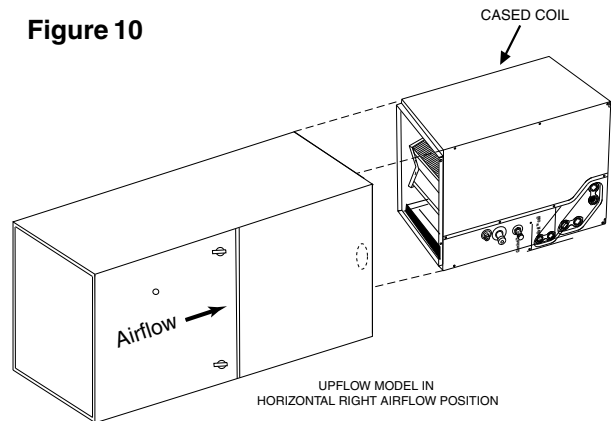

Figure 8
2. Replace the top baffle using the screws removed previously (see Figure 8).